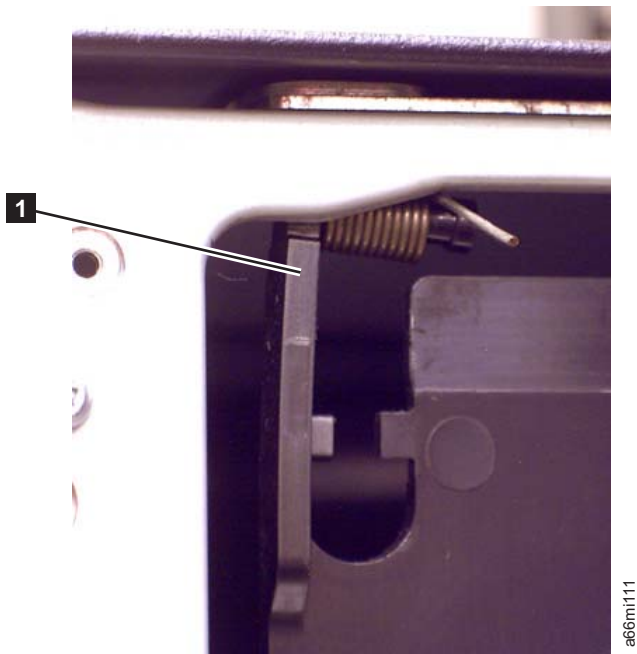

Figure 8-27. I/O Safety Flap Pivot Pin, Removed
4. Move the flap to the right to remove the pivot pin (**1** in Figure 8-27 on page 8-30) from the pivot hole (**1** in Figure 8-27 on page 8-30). The flap can now be